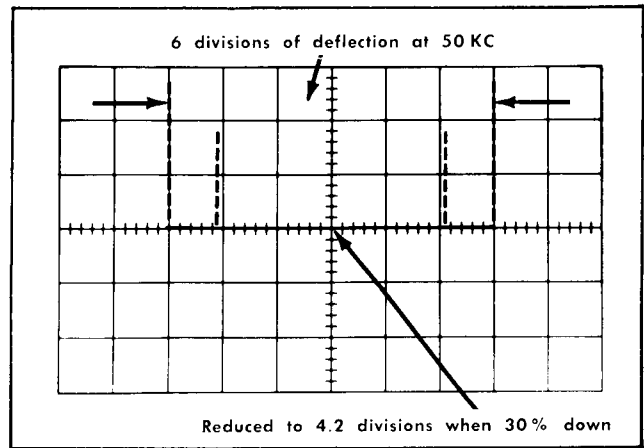

Fig. 6-30. Typical crt display when checking external horizontal bandpass.
- f. Without changing the output amplitude, increase the output frequency until the horizontal deflection is reduced to 4.2 divisions (see Fig. 6-30).